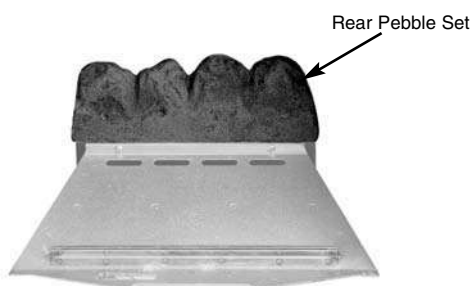

Fig. 20
1. Place the rear pebble set on the rear ceramic retainer ledge in a central position (Fig. 20).